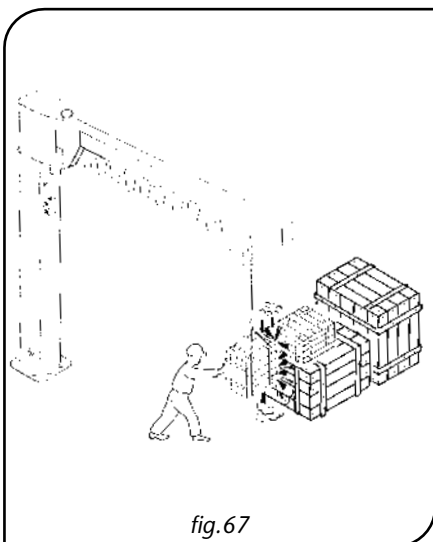

fig.67
- **ALWAYS** ensure, before maneuvering, that the rotation of the arm is free from obstacles and that during lifting, travelling and rotation, the load does not meet obstacles (fig. 67).